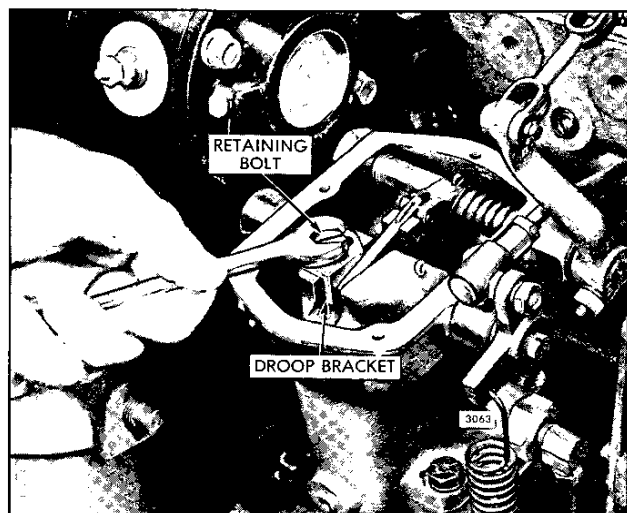

Fig. 4 – Adjusting Droop Bracket
4. Refer to Fig. 4 and loosen the droop adjusting bolt. Move the droop bracket so that the bolt is midway between the ends of the slot in the bracket. Tighten the bolt.